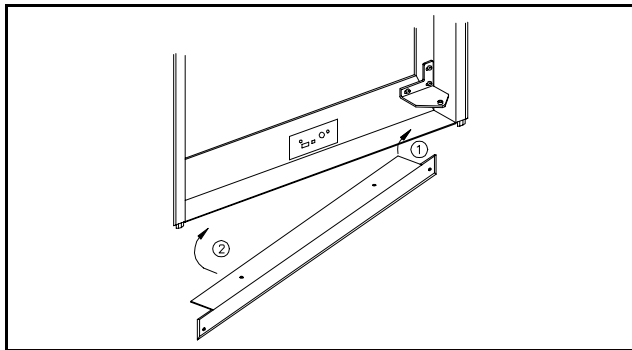

Figure 5
1. Install the lower flange by maneuvering it under and behind the bottom hinge plate, as shown in Figure 5 (the hinge will be located on either the right or left side, depending on door swing preference).